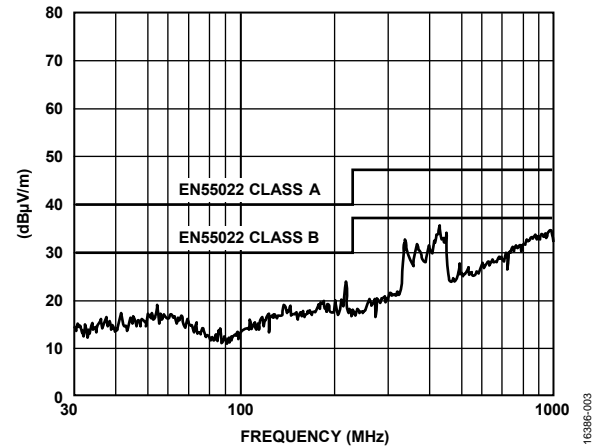

Figure 3. Horizontal Scan from 30 MHz to 1 GHz with 100 mA, 5 V Output
The EVAL-ADUM5020EBZ evaluation board is configured and tested with 5.0 V power supplied to the V_{DDP} pin from the ADP7104ACPZ regulator output. The ADP7104ACPZ regulator input is supplied from a standard 9 V battery. V_{ISO} can be loaded with six 300 Ω , 0805 size, SMD resistors in parallel for a total load of 50 Ω or 100mA load at 5 V. Measurements carried out according to the CISPR22/EN55022 Class B standard in a semi anechoic chamber at 10 m from 30 MHz to 1 GHz are shown in Figure 3 and Figure 4. Figure 3 shows the results of the peak horizontal scan (the worst case), and Figure 4 shows the results of the peak vertical scan. Table 3 shows the tabulated quasi peak (QP) results. These results show that the ADuM5020 emissions at -4.0 dB margin are well below CISPR22/EN55022 Class B limits when at 5 V output and 100 mA load on a 2-layer PCB with the use of ferrites.